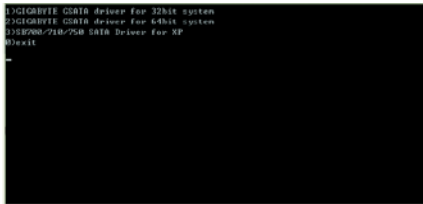

Figure 2
Step 2: When the controller menu (Figure 2) appears, remove the startup disk and insert the blank formatted disk. Select the controller driver by pressing the corresponding letter from the menu. For example, from the menu in Figure 2, to install Windows XP to your RAID/AHCI hard drives, select **3) SB700/710/750 SATA Driver for XP** and press <Enter>. Your system will then automatically copy this driver file to the floppy disk. Press any key to exit when finished.
Use an alternative system and insert the motherboard driver disk. From your optical drive folder, double click the **MENU.exe** file in the **BootDrv** folder (Figure 3). A command prompt window will open similar to that in Figure 2.